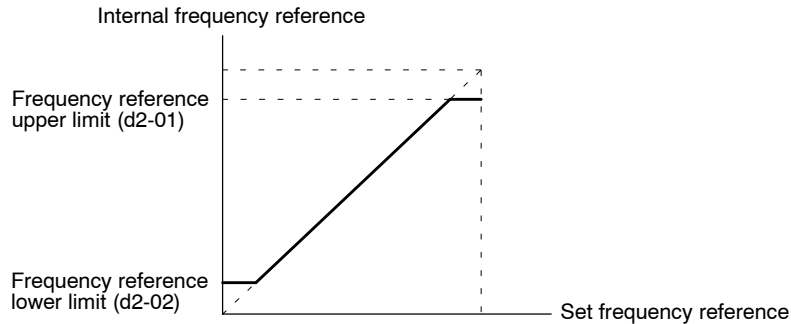

Fig 7.27 Upper and Lower Limits of the Frequency Reference
- The upper and lower limits of the frequency reference are shown in *Figure 7.27*.